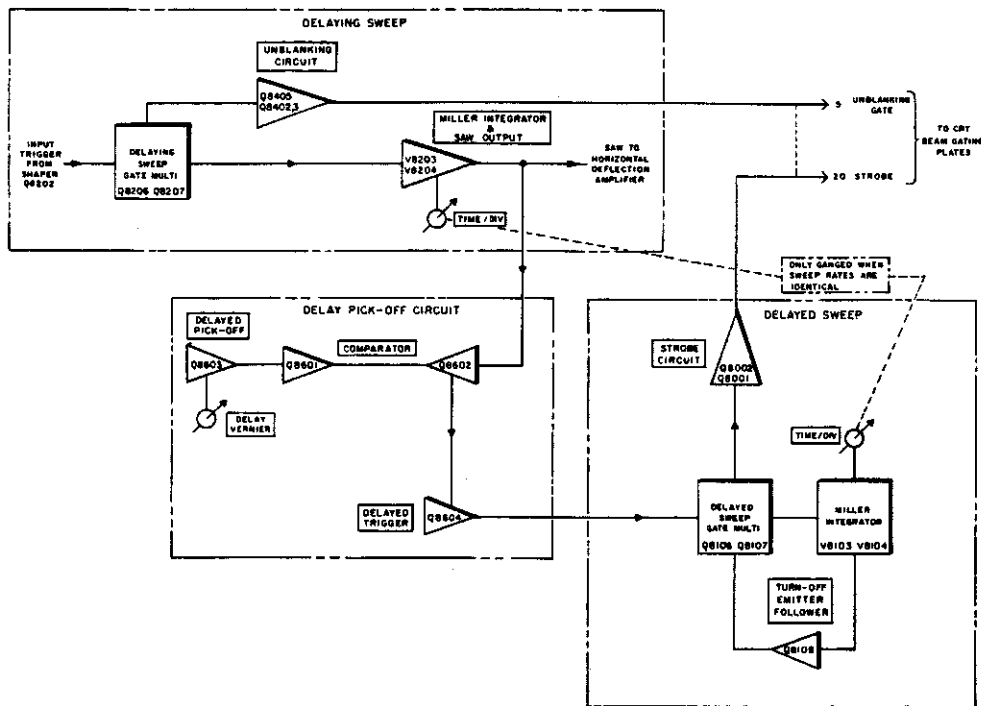

Figure 3-4. Triggered Strobe Mode, Functional Block Diagram
- Figure 3-4. Triggered Strobe Mode, Functional Block Diagram
(Figures 3-4 and 3-5)
Referring to Figure 3-4, the saw from the Delaying Sweep circuit is applied to the horizontal deflection amplifier and to the input of the delay pick-off comparator circuit Q8601 and Q8602.